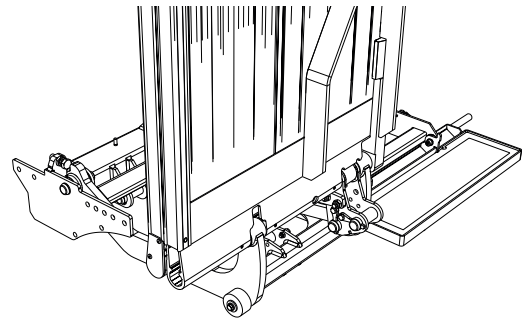

Figure 13. Place the platform
3. Position the platform on the lift arms, see Figure 13.